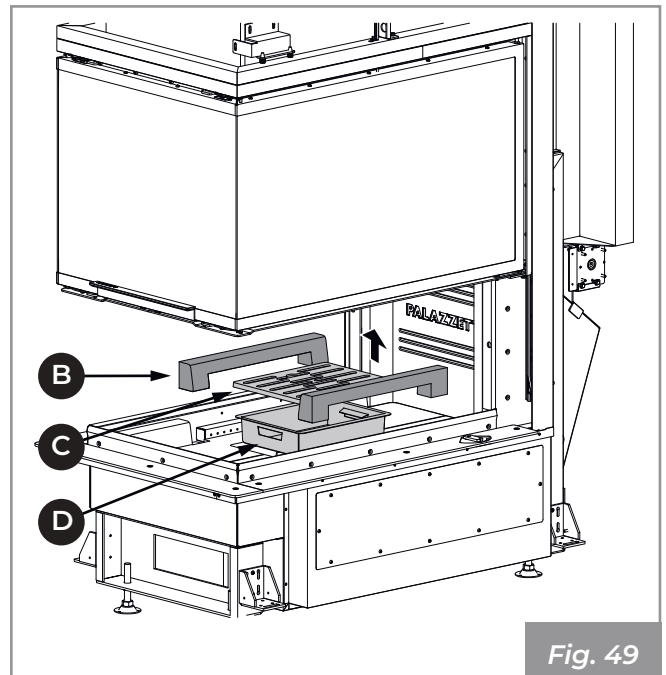

Fig. 49
- 2) Lift and extract the combustion air deflectors (B), the grate (C) and the ash drawer (D) (Fig. 49).